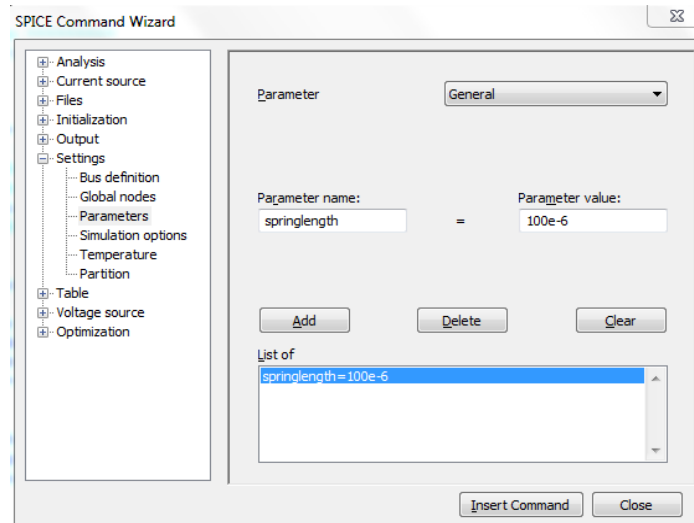

Figure 73: Customizing the setting parameters
- ☑ In the left tree, double-click **Settings > Parameters**. Leave the "Parameter Type" field set to "General". Set **Parameter name** to **springlength**, **Parameter value** to **100e-6**, then click **Add** (Figure 73).